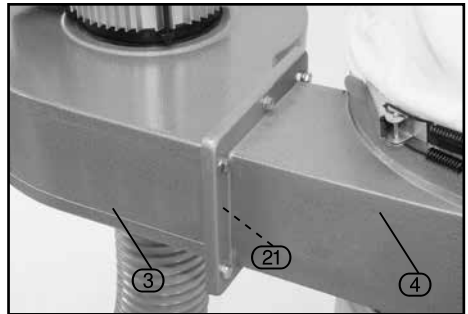

FIG. 2
8.2 MOTOR/DUCTING UNIT & COLLECTION BAG DUCTING – FIG. 2